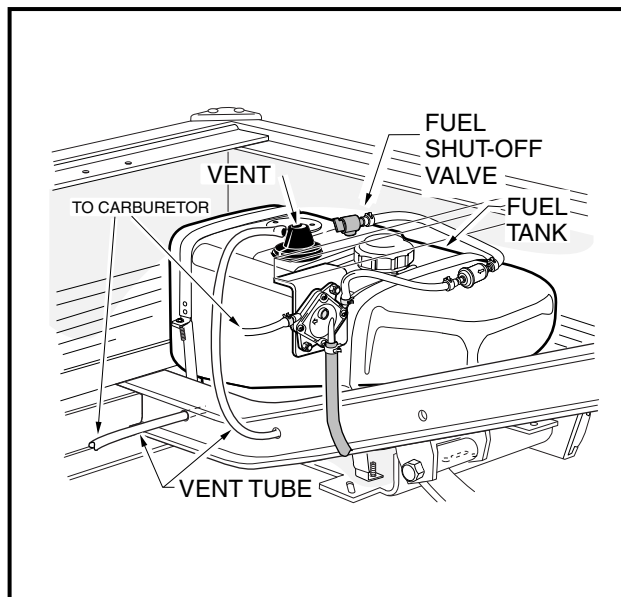
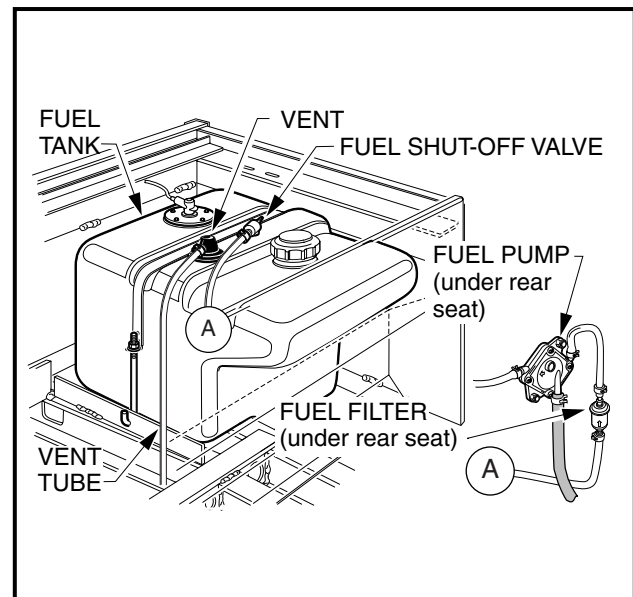
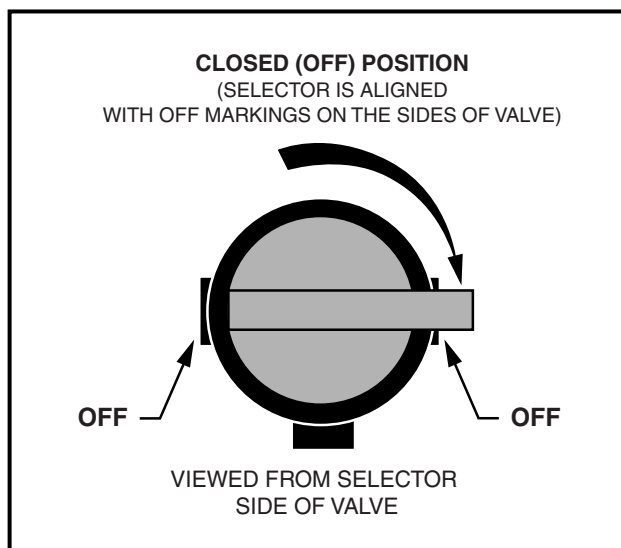

Figure 14-18 Bobcat 2100 Fuel Tank
Figure 14-19 Bobcat 2100S Fuel Tank
Figure 14-20 Closed Fuel Shut-off Valve
2. Turn fuel shut-off valve to the closed (OFF) position (**Figure 14-20, Page 14-28**).
The fuel shut-off valve is located on top of the fuel tank (**Figure 14-18, Page 14-28** or **Figure 14-19, Page 14-28**). The fuel shut-off valve should always be turned to the closed (OFF) position during vehicle storage, towing or trailering, or maintenance and service (**Figure 14-20, Page 14-28**).